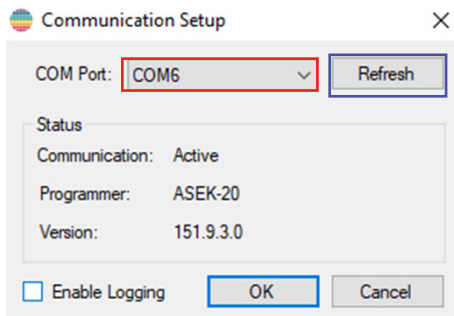

Figure 16: Communication Setup dialog box
To connect the ASEK-20, click “Setup”, then “Communication Setup”. The dialog box in Figure 16 will appear. Click the correct COM# in the pull-down menu next to COM Port. If the COM port is unknown, do the following:
2. Click “Refresh” in the “Communication Setup” dialog window as highlighted in blue in Figure 16.